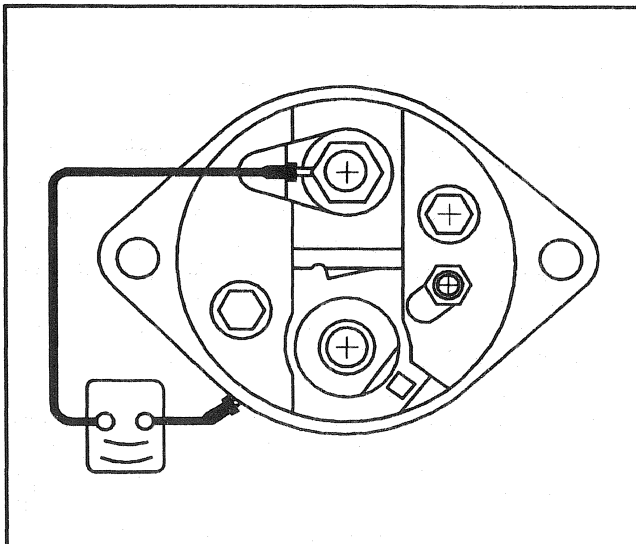

Figure 9—Solenoid Terminals
- Check the resistance of the solenoid pull-in and hold-in windings in series by measuring the resistance between the motor terminal and the solenoid case (Figure 9). Resistance should be about 1.95 ohms.